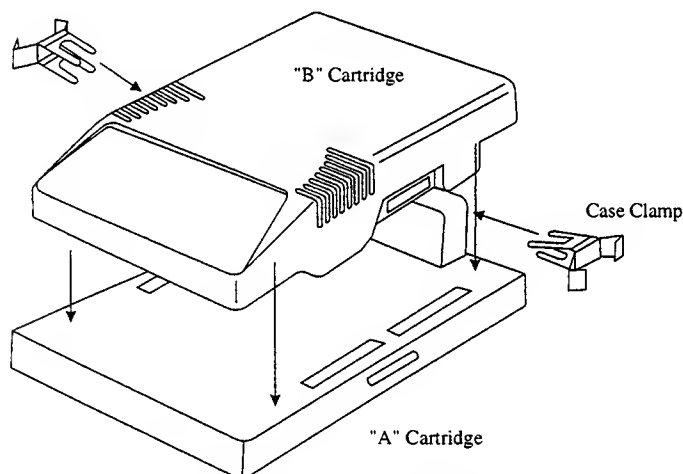

Figure 12 : Case Clamp Installation
2. To mate the existing “B” cartridge with the “A” cartridge, align the “B” cartridge over the “A” cartridge and push down firmly. Install the case clamps as shown in Figure 12.